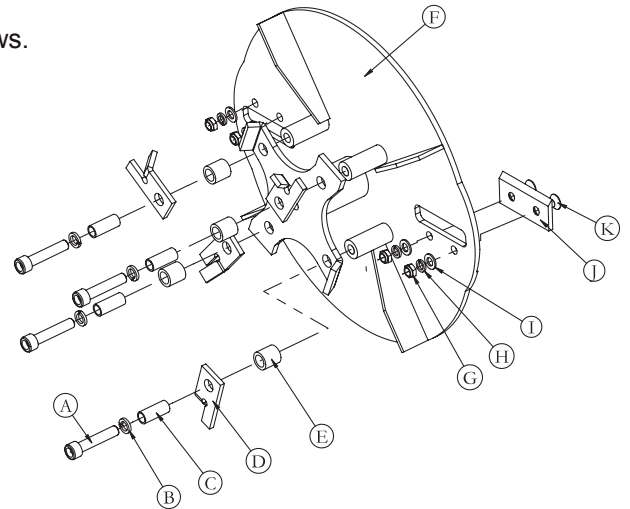

Figure 10
4. Note the assembly sequence of the hardware used to secure the hammers. Using an allen wrench remove the socket head cap screw (A) and related hardware. SEE FIGURE 10
5. Inspect the hammers (D), spacer tubes (C, E), and hardware. If the spacer tube (E) shows signs of wear, replace it. Inspect and flip, or replace the hammers (D).
6. Reassemble the hammers, spacers, washers, and cap screws. Torque the socket head cap screws (A) back tightly